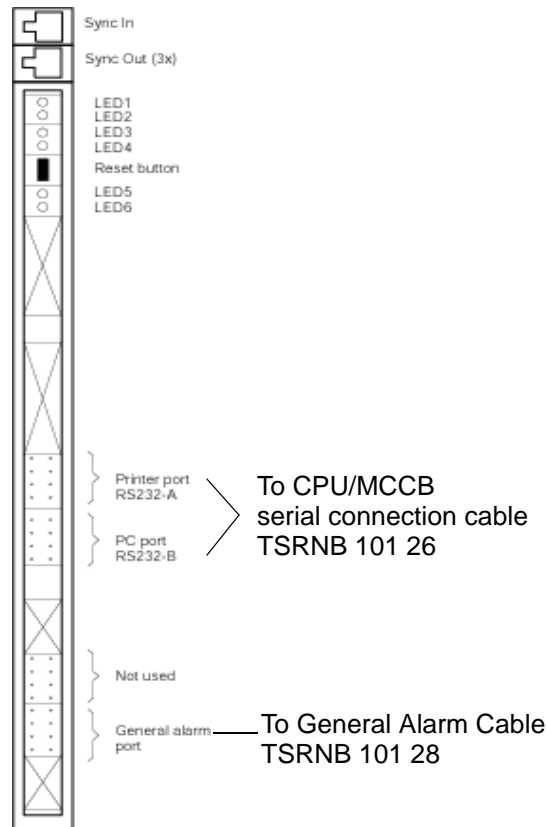

Fig. 20-6 CPU2 Board Connections
2. Connect the CPU/MCCB serial connection cable (TSRNB 101 26) to the Printer and PC port on the CPU (see Figure 20-6).
The CPU2 has two RJ45 connectors, one for Sync In and one for Sync Out. (Figure 20-6)